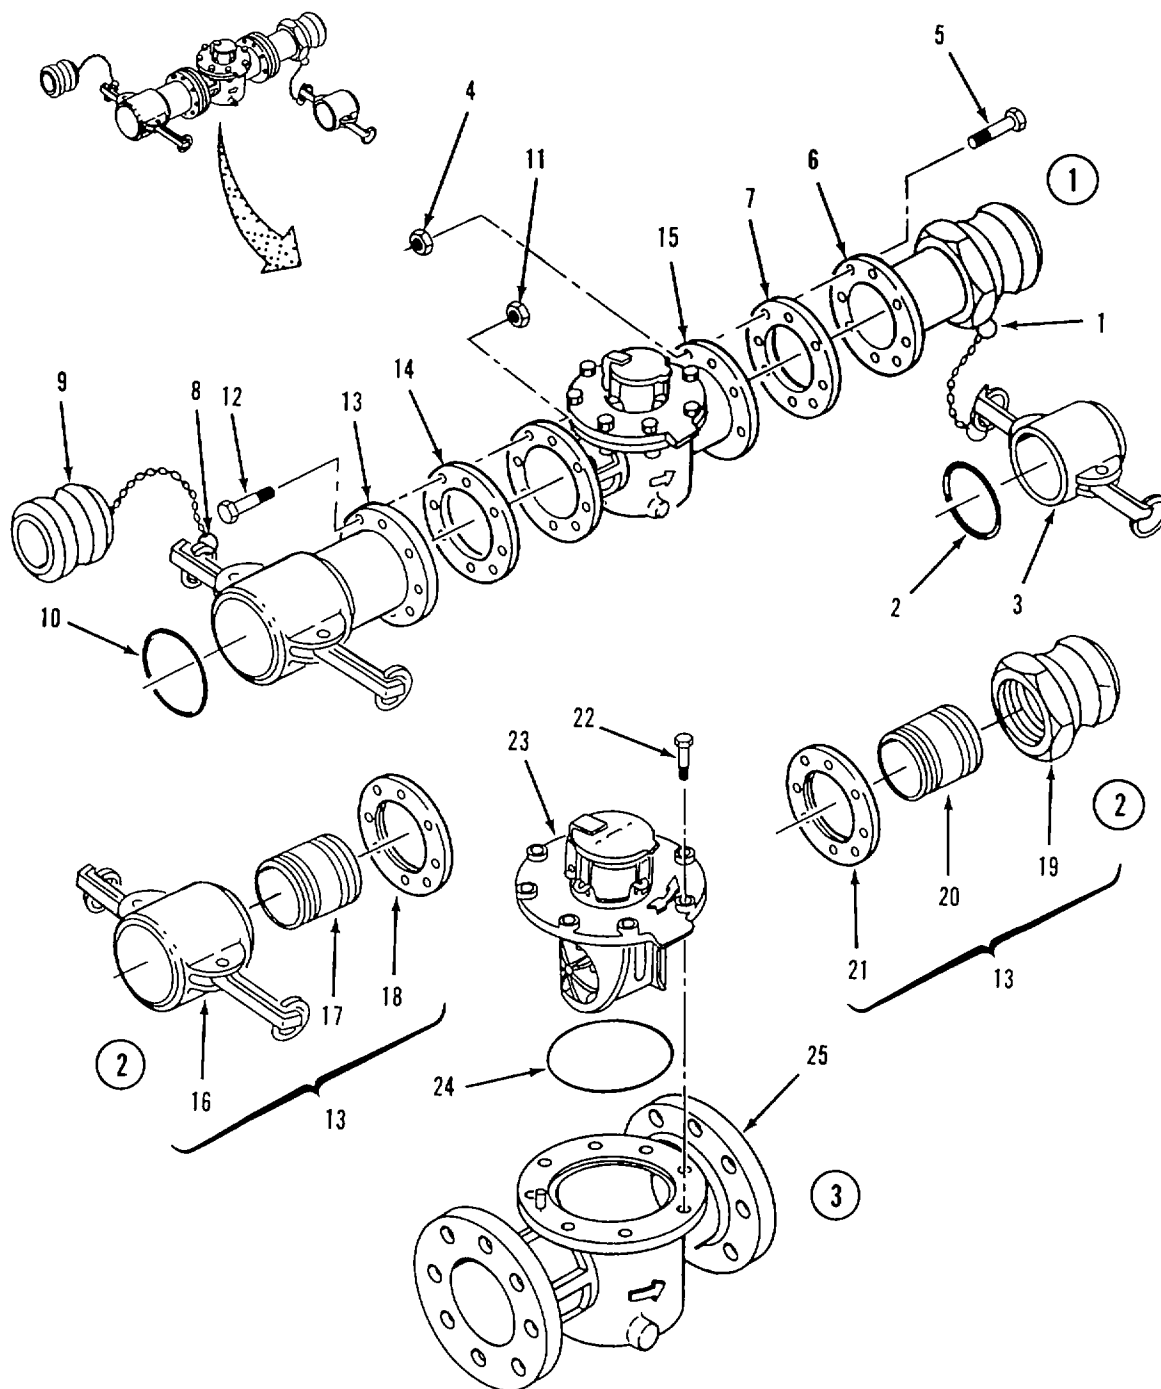

Figure 4-29. Water Meter Repair.
a. Disassembly. Refer to figure 4-29.
- (1) .Disconnect ring (1) from male coupling (9) and remove cap (3).
- (2) Remove gasket (2) from cap (3).
- (3) Remove eight self locking nuts (4) and screws (5).
- (4) Separate male coupling (6) and gasket (7) from meter (15).
- (5) Disconnect ring (8) from female coupling (13) and remove plug (9).
- (6) Remove gasket (10) from female coupling (13).
- (7) Remove eight self locking nuts (11) and screws (12).
- (8) Separate female coupling (13) and gasket (14) from meter (15).
- (9) If required, remove female coupling end (16) and nipple (17) from adapter (18).
- (10) If required, remove male coupling end (19) and nipple (20) from adapter (21).
- (1) Inspect female coupling end (16), male coupling end (19) and adapters (18 and 21) for cracks, stripped threads, and corrosion.
- (2) Inspect body (25) for cracks and corrosion.
- (3) Inspect metering element (23) for cracks, damage, and corrosion.
f. Assembly. Refer to figure 4-29.